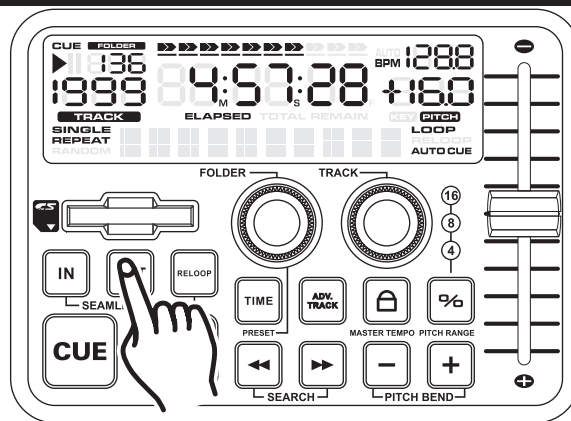

Figure 12
10. EXITING A LOOP - To exit a SEAMLESS LOOP, press the **OUT BUTTON** (36). The **IN BUTTON** (36) and **OUT BUTTON** (36) LEDs will remain on, but will stop flashing. Music playback will resume normal play (Figure 12). The **IN BUTTON** (36) and **OUT BUTTON** (36) LEDs will remain on to remind you that a loop is stored.